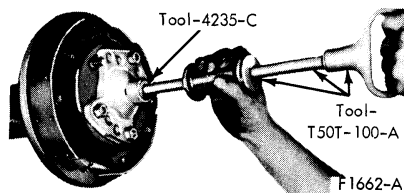

FIG. 1 Removing Axle Shaft
3. Remove the front hub grease cap and the driving hub snap ring (Fig. 1).